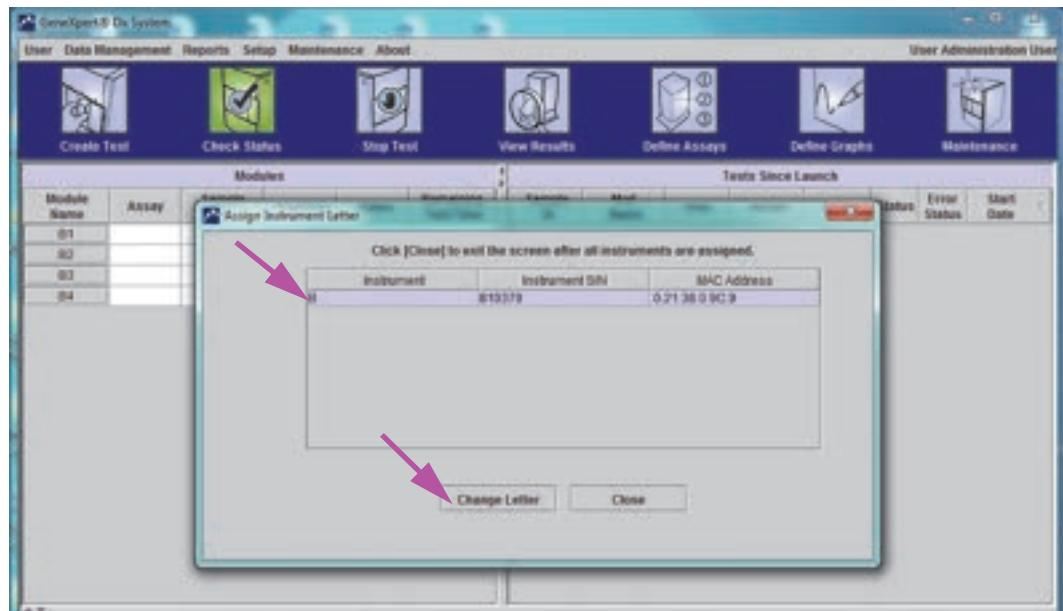

Figure 2-57. GeneXpert Dx System Window with Assign Instrument Letter Dialog Box Overlay
5. To change the assignment letter, click to select the instrument to change and then click **Change Letter** in the Assign Instrument Letter dialog box (see Figure 2-57).